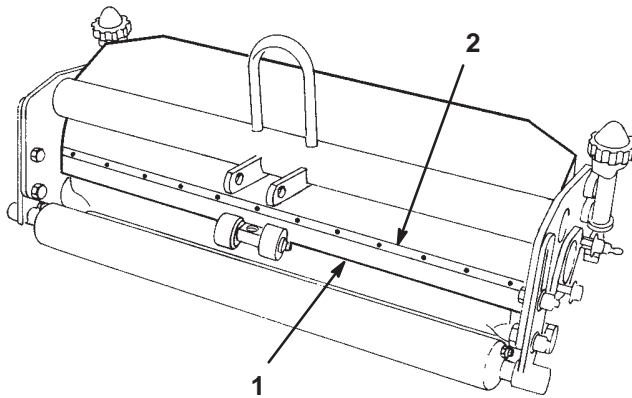

Figure 13
1. Slide the bedbar into position between the side plates, making sure each end of the bedbar is under the shield (Fig. 13).